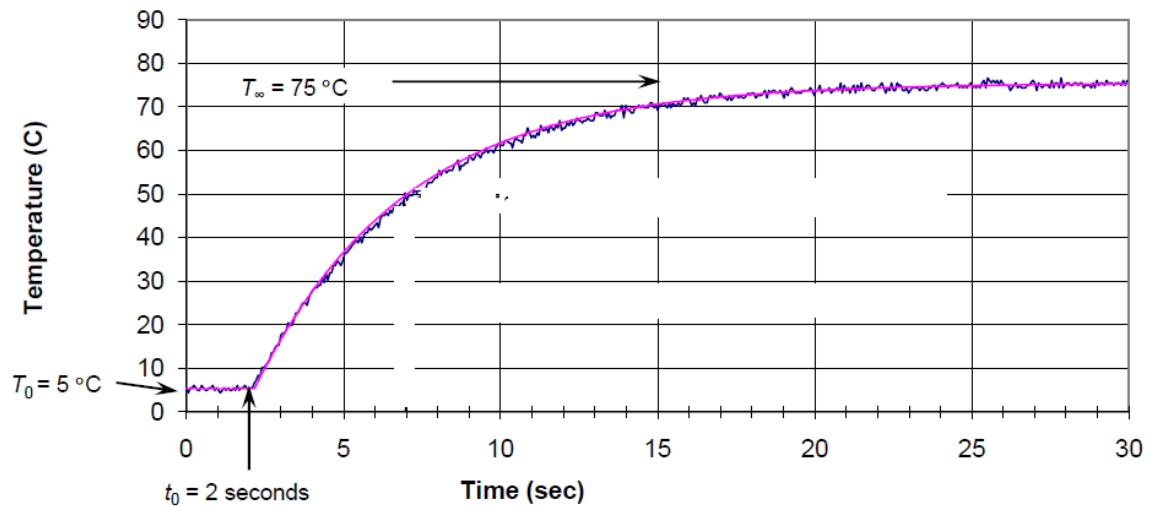

Figure 3[c]
- [c] Figure 3[c] below shows the response of thermometer reading which is taken from 5 degree Celcius and soaked into a 75 degree Celcius bath. Assume the thermocouple can be modeled as first order system. From the experimental result shown in the figure determine the (i) time constant and (ii) based on the time constant calculated comment on the suitability of the thermometer to be used in the measurement of a dynamic process where the temperature is cyclical with a period of 5 seconds.**